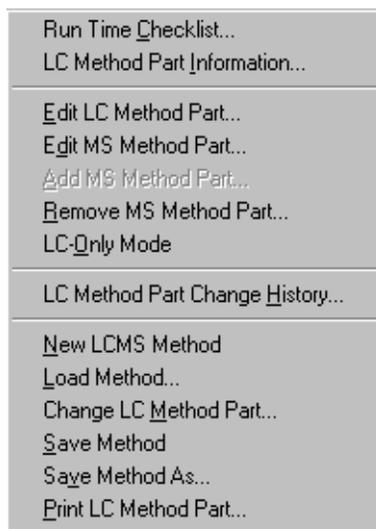

Figure 28 Method menu for LC/MS method loaded in ChemStation
- Edit MS Method Part** Menu item is only active if the loaded method is an LC/MS method (Figure 28).